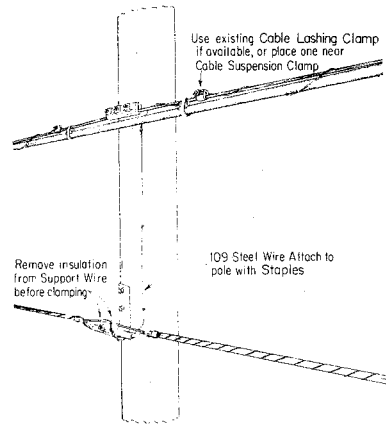

Fig. 33—Connecting Support Wire to Parallel Cable Suspension Strand
5.07 Where there is an existing telephone cable, the support wire may be connected to the cable suspension strand as shown in Fig. 33.